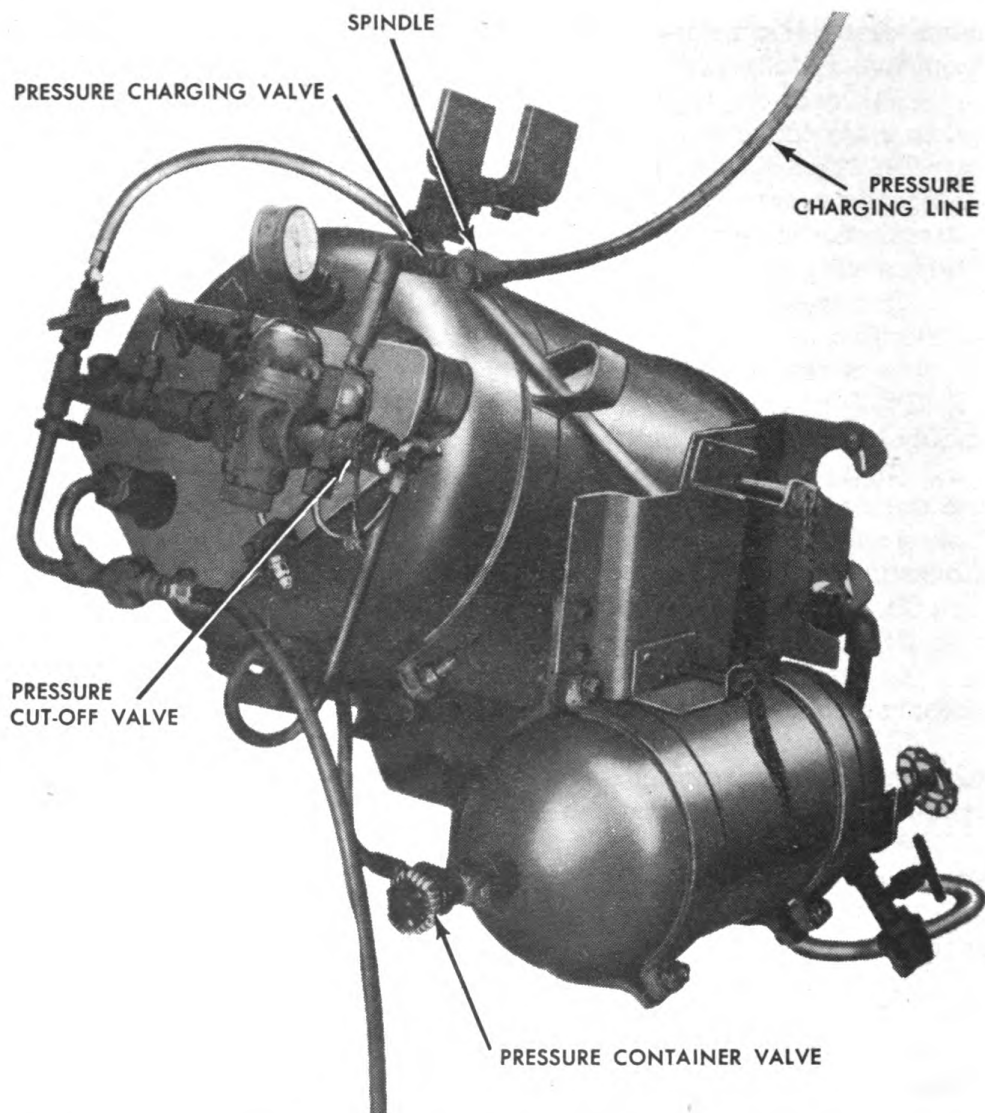

Fig. 118. Pressure charging line connected to transmission fuel group. Same procedure is used for sponson fuel group.
(5) Crack the valve of the cylinder connected directly to the inlet nut to clear the manifold of dust or dirt. Close cylinder valve.
(6) Connect other end of the manifold leads to outlets of cylinders. The leads may be bent to permit fittings to screw over cylinder outlets. Be careful to align threads so that they are not damaged. Tighten with end wrench.
(7) Screw gland nut (located on end of the pressure charging hose) to manifold block at one of the threaded outlets.
(8) Screw charging line hose to pressure charging line assembly.
(9) Screw dust cap (chained to manifold block) tight with a wrench on any open manifold block connection which is not being used.
c. Charging procedure. (1) Unscrew cap of pressure charging valve and screw spindle end of pressure charging line in position (fig. 118). Use wrench to make line tight. Close spindle tightly by turning it clockwise.
(2) Close pressure cut-off valve tightly by turning it clockwise.
(3) Open pressure container valve.
(4) Open valve on pressure cylinder marked as having lowest pressure content.
(5) Man in assistant driver's seat observes high pressure line gage on fuel group being charged. When gage shows no further increase, pressure in container and cylinder are equal.
(6) Close valve on pressure cylinder which now has pressure equalized with pressure in pressure container.
(7) Check high pressure line gage and mark the reading on the used pressure cylinder. Use chalk, crayon, or pencil.
(8) Open valve on pressure cylinder marked with next higher pressure. Repeat steps (5) through (7) above.
(9) In the same manner, use third and fourth pressure cylinders, discontinuing charging only when the high pressure line gage indicates pressure of approximately 1,800 pounds per square inch.
(10) If third and fourth cylinders on manifold do not raise pressure in container to approximately 1,800 pounds: